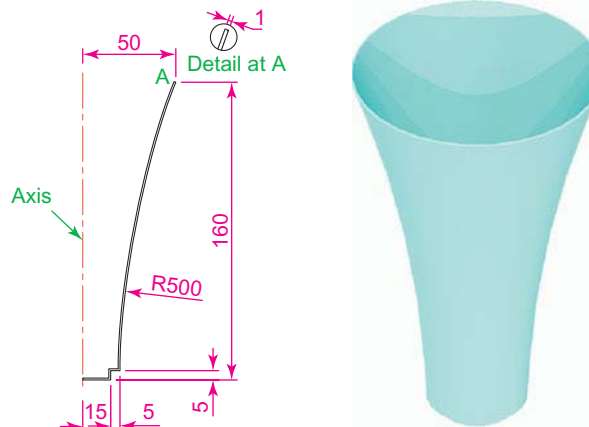

Fig. 18.21 Fourth example – 3D models
Fourth example (Fig. 18.21)
1. **Front.** Construct the polyline – left-hand drawing in Fig. 18.21.
4. **Isometric.** Render – right-hand illustration Fig. 18.21.